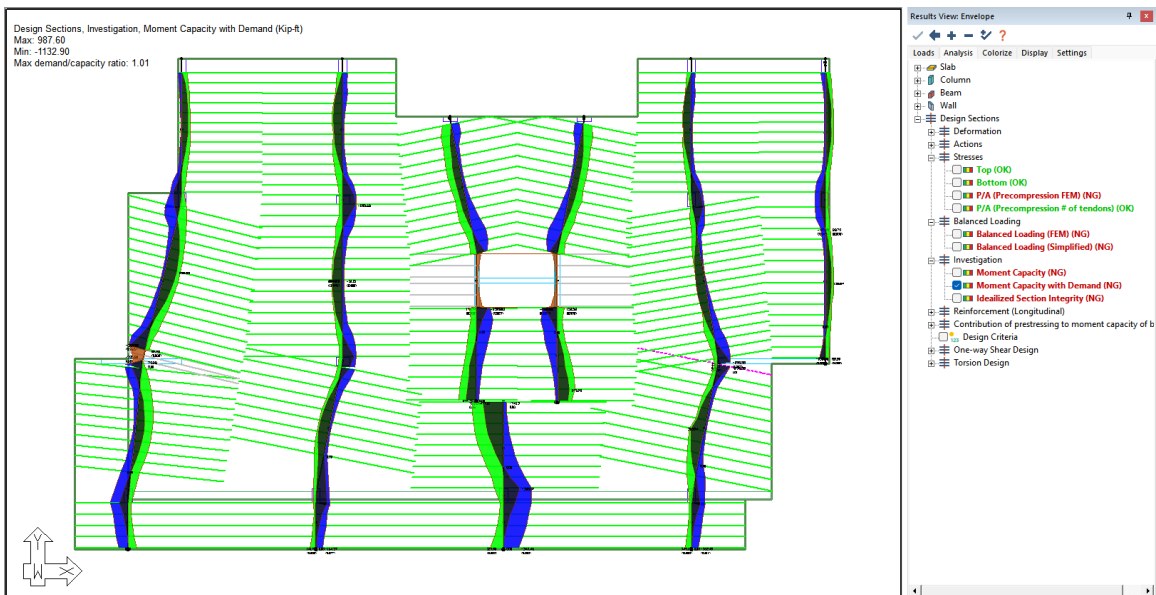

FIGURE 9-121
- Go to *Floor Design* → *Strip Results/Visibility* click on the **Display/Hide Support Lines in the Y-direction**  icon. The user should now see a screen similar to FIGURE 9-121 below.